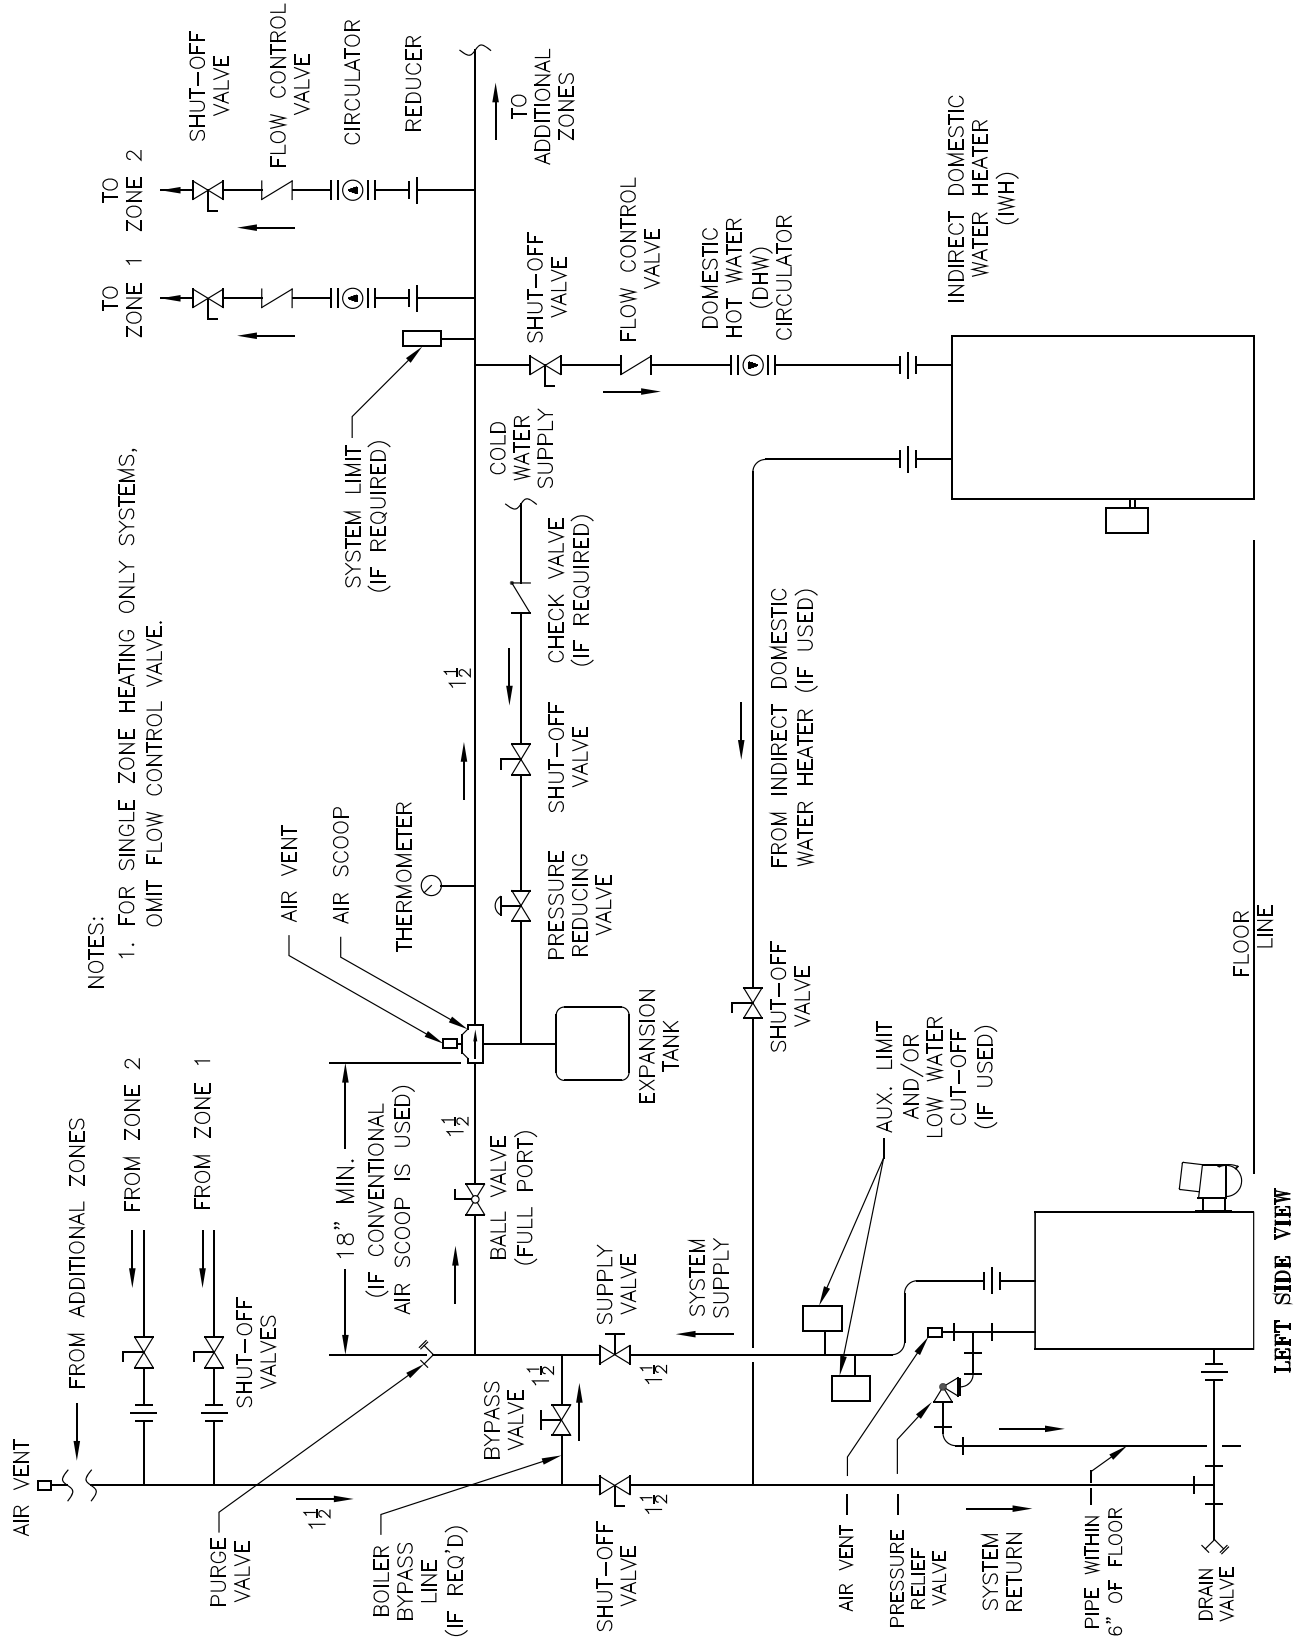

Figure 7A: Recommended Water Piping for Circulator Zoned Heating Systems
- d. Use a system bypass if the boiler is to be operated in a system which has a large volume or excessive radiation where low boiler water temperatures may be encountered (i.e. converted gravity circulation system, etc.) The bypass should be the same size as the supply and return lines with valves located in the bypass and return line as illustrated in Figures 7A and 7B in order to regulate water flow for maintenance of higher boiler water temperature. Set the bypass and return valves to a half throttle position to start.
- B. INSTALL SAFETY RELIEF VALVE.** See Figures 7A and 7B. Safety Relief Valve must be installed with spindle in the vertical position. Installation of the relief valve must be consistent with ANSI/ASME Boiler and Pressure Vessel Code, Section IV.
- C. INSTALL DRAIN VALVE IN RETURN PIPING.** See Figures 7A and 7B.